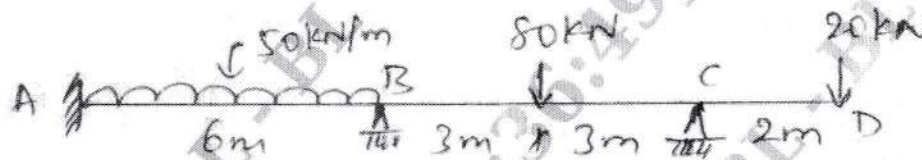

Fig. Q7
**Q.7** Analyze the beam shown in Fig. Q7, by stiffness method. Draw BMD and SFD. 20 L4 CO2